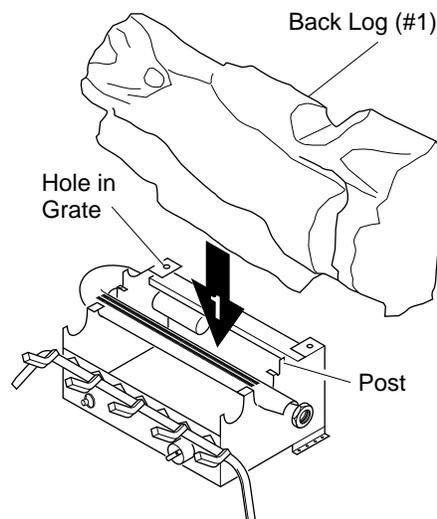

Figure 35 - Installing Back Log
- Place the back log (#1) onto the back of the burner. Make sure the log sits down into the hole in the grate and leans forward onto the two posts in front of the log (see Figure 35).